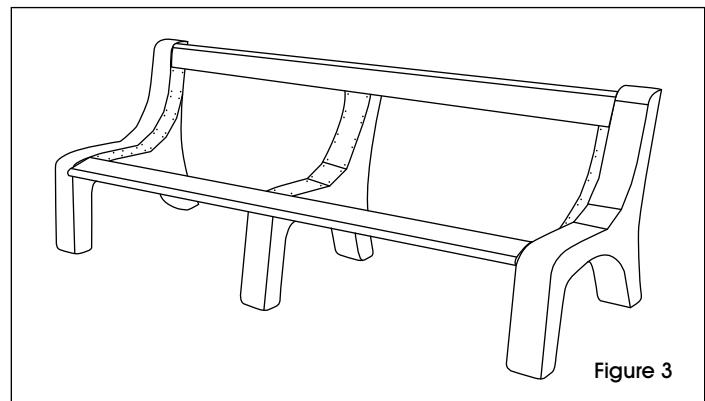

Figure 3
4. Align the center leg with the center of the installed boards and attach with screws fastened through the pre-drilled holes. (See Figure 3)